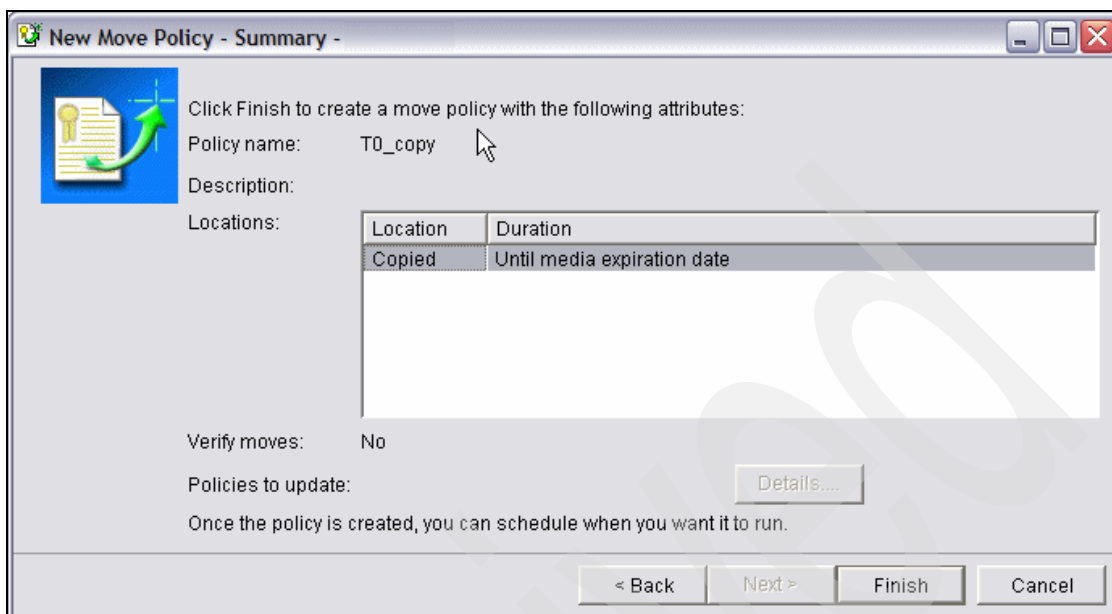

Figure 7-10 Summary
- The final window shown in the create move policy setup is a summary of the settings, as shown in Figure 7-10 on page 342. Since all the actions are complete, click **Finish**.